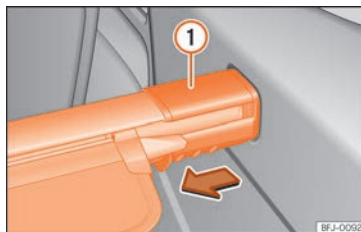

Fig. 124 In the luggage compartment: remove the rear shelf.
- Press the support of the cover » **Fig. 124** ① in the direction of the arrow and hold it in this position.
- Remove the cover support » **Fig. 124** ①.